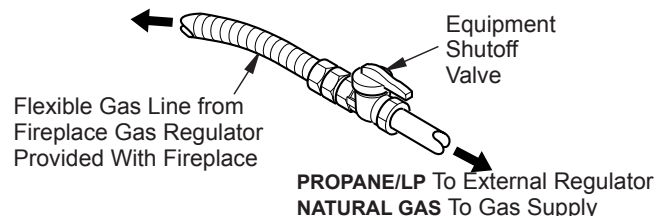

Figure 15 - Attaching Flexible Gas Line to Equipment Shutoff Valve
3. Apply pipe joint sealant lightly to male threads of gas connector attached to flexible gas line/equipment shutoff valve (see Figure 15).